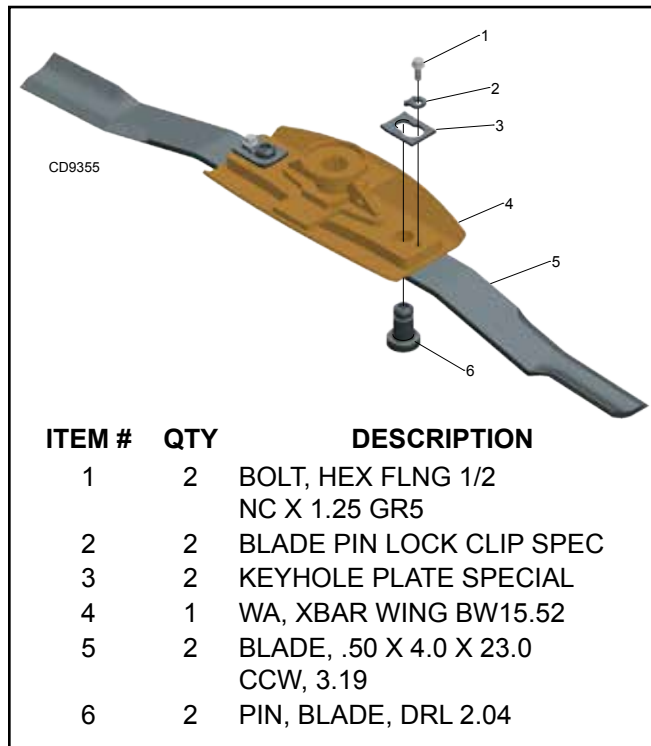

Figure 14. Blade Removal
2. Remove blades from crossbar as shown in Figure 14.